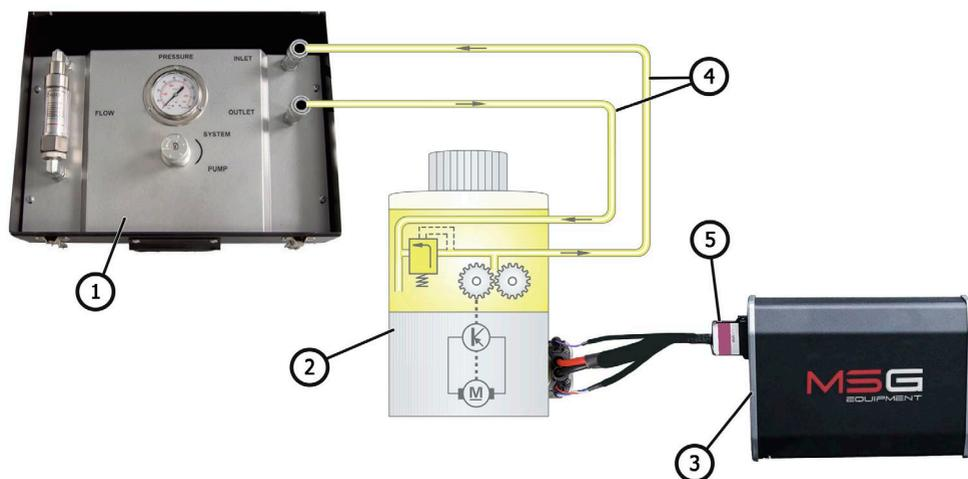

Figure 3. Connection diagram for electric pump diagnostics:
1. Connect the MS511 tester to the pump using the appropriate fittings and high-pressure hoses from the supplied kit (see Fig. 3):